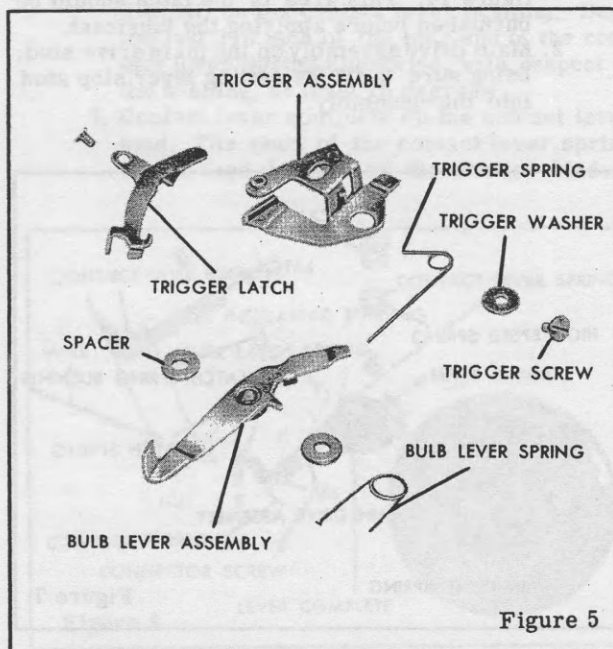
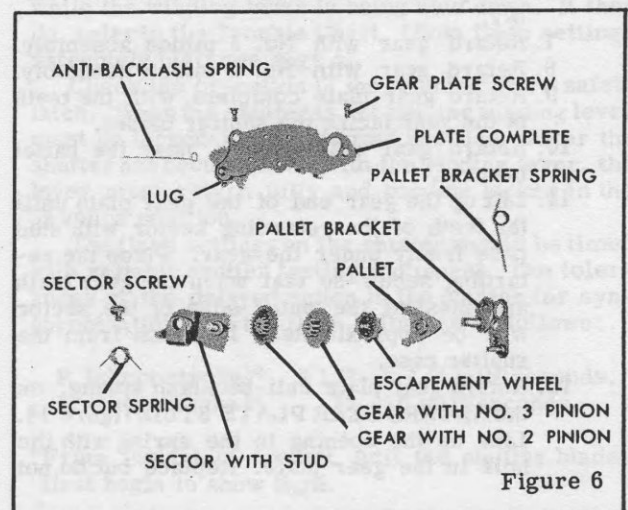

Figure 5
Figure 6
position. Be sure the projecting lug on the BULB LEVER ASSEMBLY, figure 5, the studs on the retarding SECTOR WITH STUD, figure 6, and the PALLET BRACKET with stud assembly are resting against the inside edge of the speed control ring and are not underneath the ring.
CAUTION: Do not touch the **TRIGGER LATCH**, figure 5, as it may release the winding gear spring tension.
Trip the shutter and lightly hold the winding lever down around the central collar on the cover. As the shutter is tripped, the end of the latch should fall into the slot on the cover. If it does not, add more tension on the **TRIGGER LATCH SPRING**, figure 3. Check for a bind between the trigger latch and the **TRIGGER ASSEMBLY**, figure 5, at the point of attachment. The winding lever should contact the trigger latch; push the latch out of the slot in the cover and open the shutter blades. After the shutter has been tripped, the latch should return to a position where it is resting on the ledge just above the small slot in the cover.
5. **TRIGGER LATCH**, figure 5.
6. TRIGGER SCREW, figure 5, TRIGGER SPRING, TRIGGER WASHER.
5. Retard GEAR PLATE SCREW, figure 6, near the retarding SECTOR WITH STUD.
tighten the remaining gear plate screw. The spring should be parallel to the shutter case. Holding the spring in this position, tighten the gear plate screw. Hook the end of the anti-backlash spring on the retard plate gear LUG, figure 6.